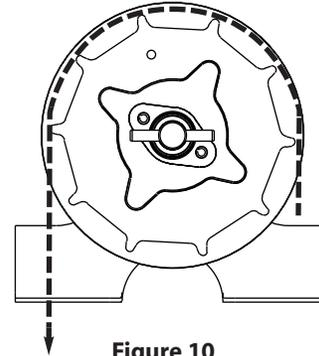

Figure 10
- 1) Route the hand chain through the chain guide, around the pocket wheel and back through the chain guide. **Fig.10.**